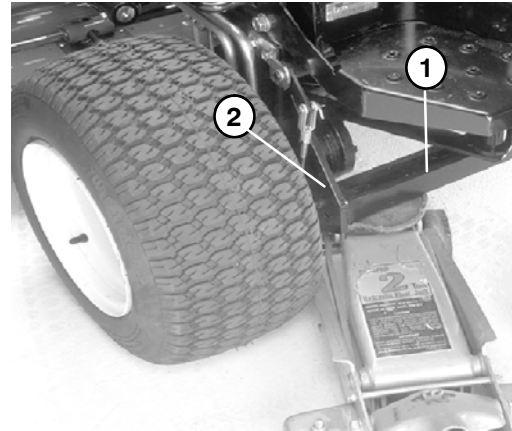

Figure 1
1. If the front wheel motor is to be removed, position jack securely under the square tube of the lower frame as closely to the side plate as possible (Fig. 1).